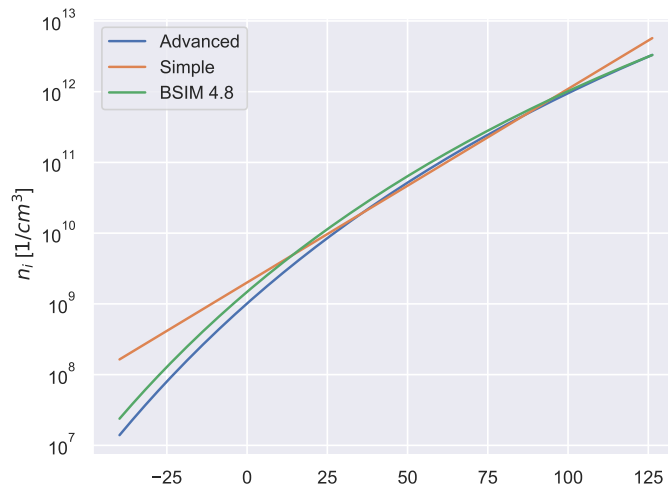

Figure 2: Intrinsic carrier concentration versus temperature
Comparing the three models in Figure 2, we see the shape of BSIM and the full equation is almost the same, while the "doubling every 11 degrees" is just wrong.
From Figure 2 we can see that  $n_i$  changes greatly as a function of temperature, but the understanding “why” is not easy to get from “doubling every 11 degrees”. To understand the temperature behavior of diodes, we must understand Eq (1).